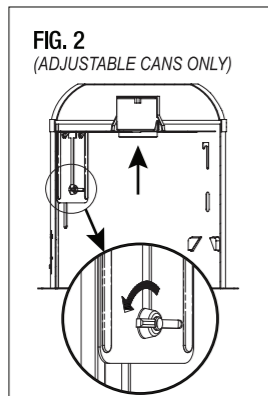

FIG. 2
- If you have an adjustable housing can, you will want the roof of the housing can to be in the highest possible position. Loosen the wing nut inside the housing can and move the roof of the housing can with the light socket as far up in the housing can as possible, as shown in FIG. 2.